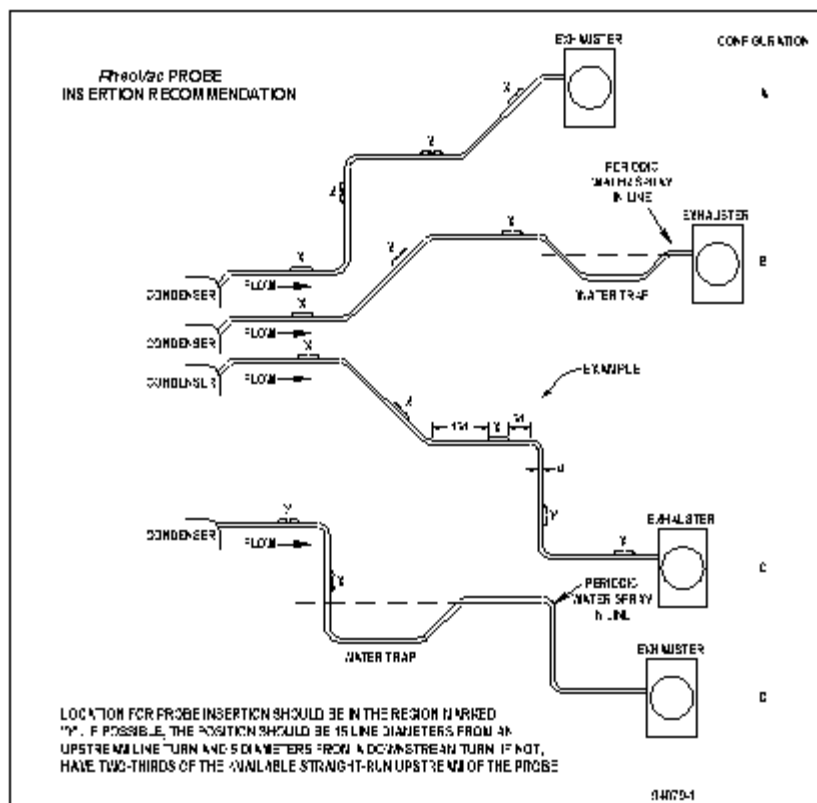

Figure 2 *RheoVac* Probe Insertion Recommendation
- ➡ The location for each probe should provide the probe sensing area with well-established smooth flow, uniform system temperature and pressure, and consistent non-liquid phase flow medium. Pipe sections ahead of a probe, in which water can accumulate, must be avoided. Refer to Figure 2 and select the most preferred location for each probe. Do not install the probes beyond any “trap” sections as shown in Figure 2, Configurations B and D. Special installation instructions unique to your unit, where applicable, will be noted in SECTION 6.3 SPECIAL INSTRUCTIONS. Refer to this section now to review special instructions.